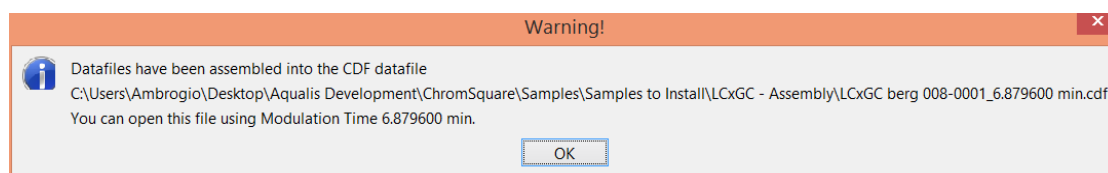

Figure 11.22: The message showing the name of the resulting assembled file
6. The software will load all single datafiles, assembling them into an unique *Chrom^{square}* “.cdf” datafile, that will be saved in the same directory. The assembled datafile will have a name composed by the name of the first original datafile, followed by the specification of the modulation time (in the assembly case, the modulation time is given by the final retention time of the single datafiles, that should be the same for all files). The name of the new file is shown in a Message box, like in Figure 11.22.